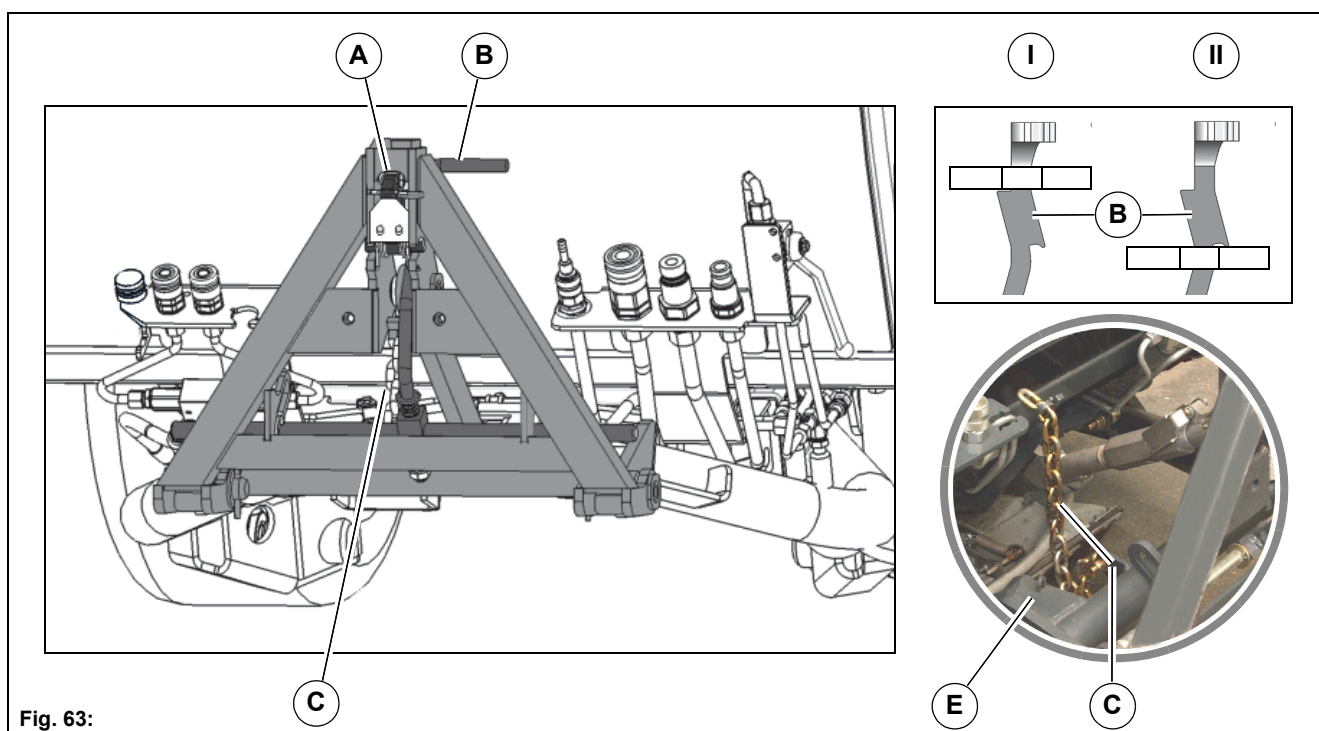

Fig. 63:
2. Bring the locking hook **Fig. 63-A** into the rear position and the lever **Fig. 63-B** into the upper position (II). Pick up the chain **Fig. 63-C** and hook in onto the hook **Fig. 63-E**.